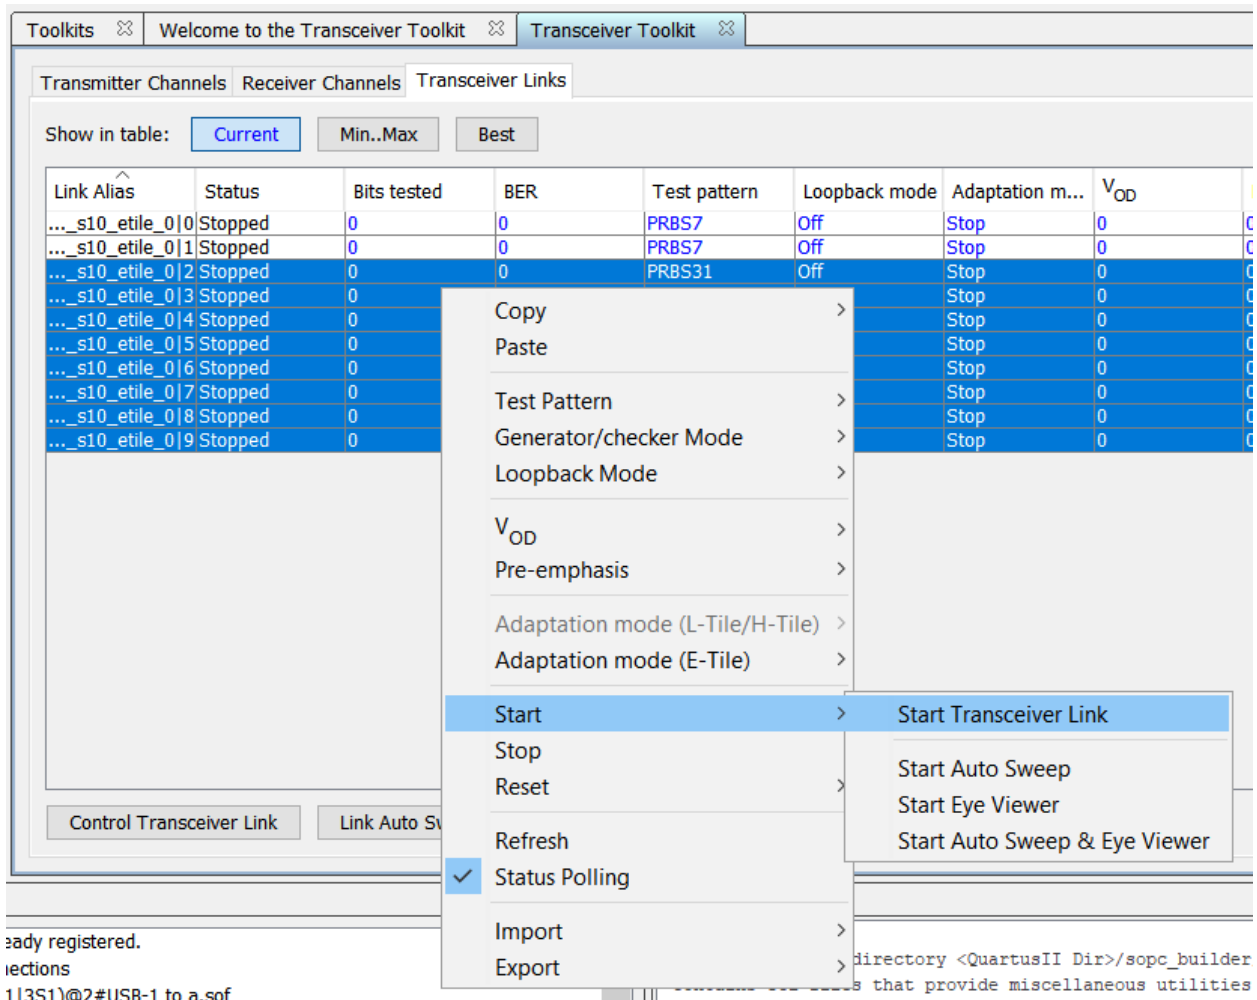

Figure 7. Starting the BER link test
8. To start the BER link test, select the 8 PAM4 channels -> right click -> Start -> Start Transceiver Link as shown in Figure 7